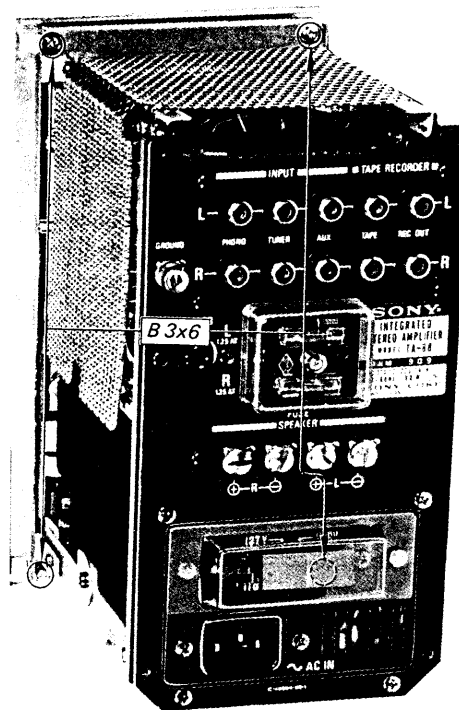

Fig. 2-3. Front panel removal
3. Remove the four screws behind top and bottom edge of the front subchassis shown in Fig. 2-3.